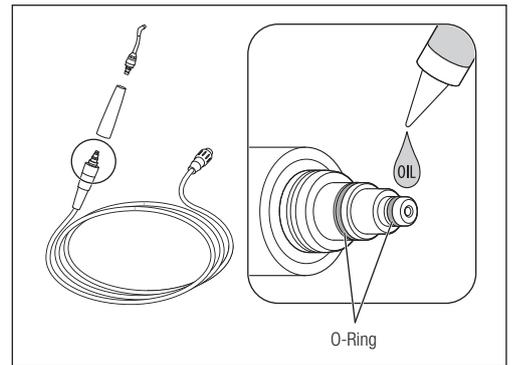

Fig. 45
- 4) Apply a drop of the supplied turbine oil and rub it in with your finger (Fig. 45).